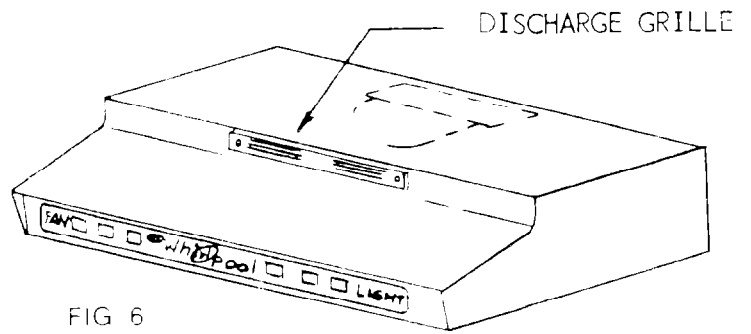

FIG 6
1. To convert your range hood to ventless, remove the discharge grill shown in Figure 6 by pulling with fingers. Remove the metal back seal from behind the louver.